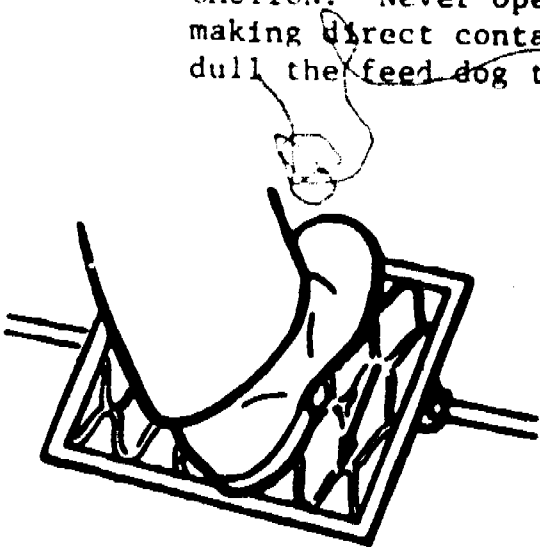

Figure 9. Disengaging Clutch.
c. Place your right foot on the treadle with your heel applying pressure on the lower edge of the treadle as shown in figure 9.
d. Apply pressure gradually with the toe as shown in figure 9, part A.